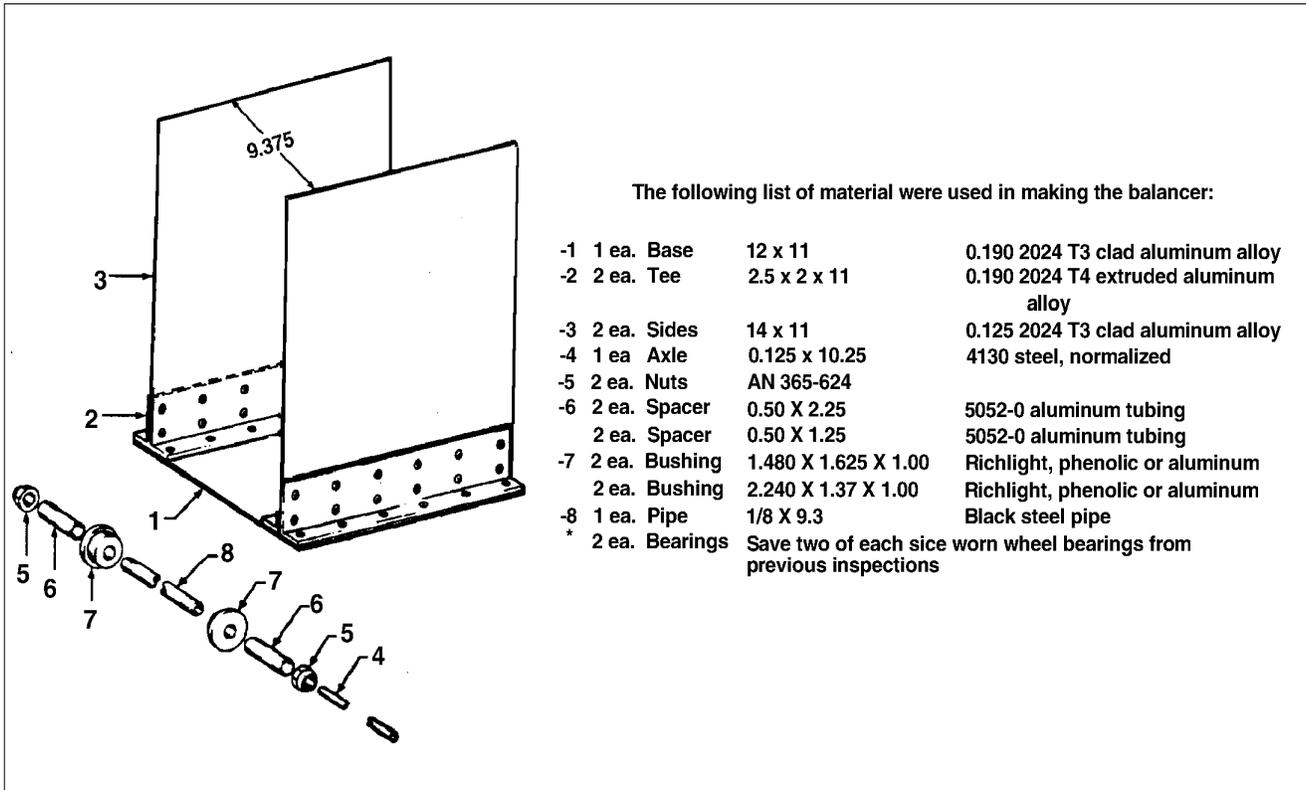

Figure 95-1. Tire Balancer Fixture
A. Tire Balancer ( ref. Figure 95-1 )